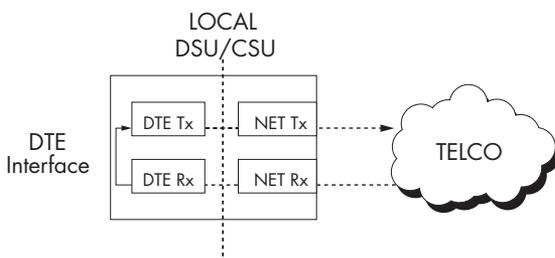

Figure 12-6. Loop Only Test.
12.3.2 LOOP ONLY (RT)
The Loop Only (RT) test allows the loop interface and a major portion of the DTE interface for the local CSU/DSU MS DBU to be tested from the remote site over the actual communication circuit. Figure 12-6 illustrates the loopback point and the signal paths for this test.